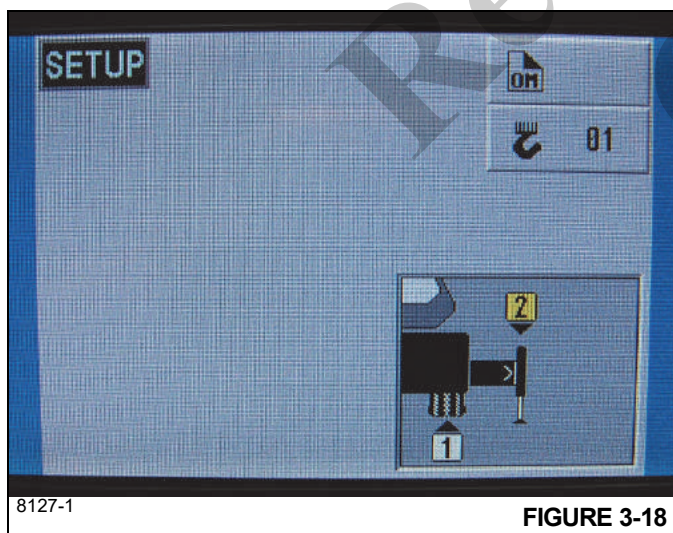
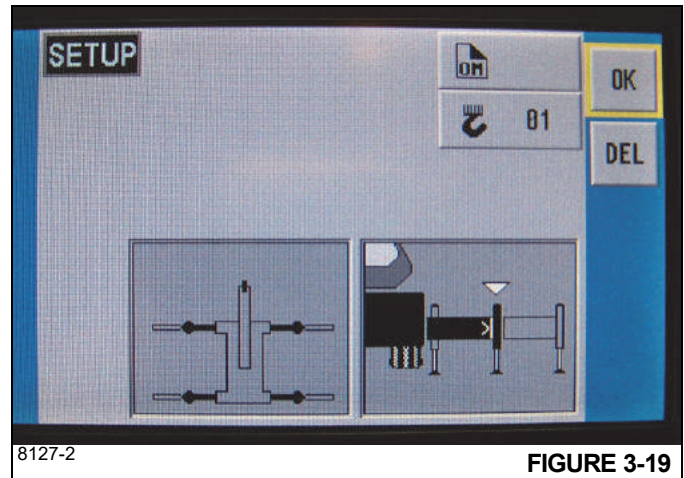

FIGURE 3-18
FIGURE 3-19
If the crane is setup on outriggers and “On Outriggers” is chosen when programming the RCL (Figure 3-18), then the OMS indicates to the RCL the horizontal position of each of the four outrigger beams. Based on this information, the RCL will default to the most conservative outrigger beam configuration; that is, if three outriggers are fully extended and one is retracted, the RCL will select retracted as the outrigger configuration. A confirmation of this outrigger configuration is all that is needed (Figure 3-19). Refer to the *Rated Capacity Limiter Operator Handbook* for detailed instructions.
**NOTE:** Figure 3-19 depicts all four outrigger beams in the mid-extend position as indicated by the OMS and RCL.